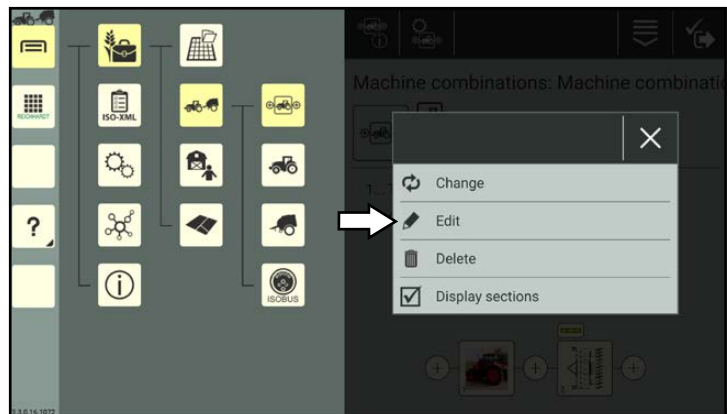

Fig. 316: Selecting "Edit"
2. Select "Edit" (see Fig. 316).